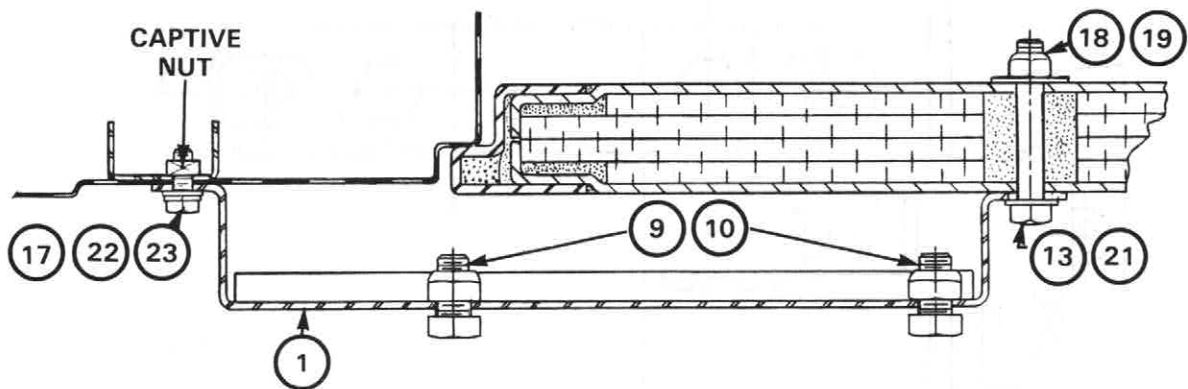

Figure 6 Installing Fuel Can Bracket Support
- b. See Figure 6. Install the fuel can bracket support (1) to fit the mounting holes and secure the support to the vehicle body using the 3 screws (17) with flat washers (22) and lockwashers (23).
- d. See Figure 6. Install a flat washer (21) on each screw (13) and insert the screws through the drilled holes in the support (1) and tailgate. Secure the support using two self-locking nuts (18) with large OD flat washers (19).